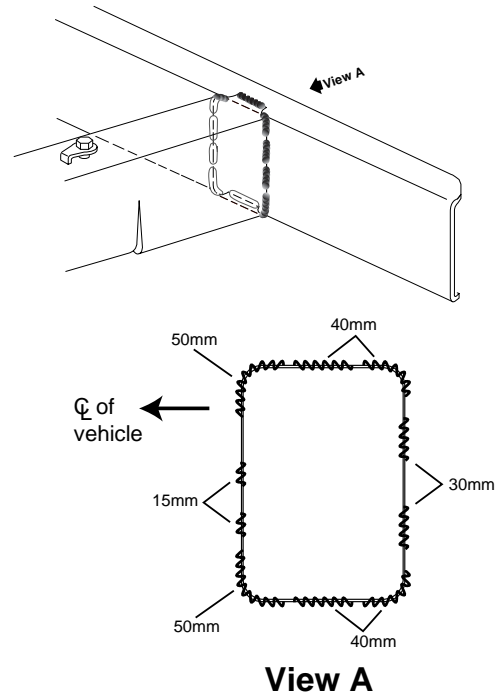

Fig. 3.74 — Weld Perimeter of Joint, as Indicated
- 2 Temporarily position the impact bar and scribe lines into the primer indicating where the welds will be made. Remove the primer from the areas to be MIG welded by sanding with 80-grit paper on a 'Dual-Action' sander (DA). Do Not use a grinder to remove the primer.
- 4 Position the bumper impact bar using three-dimensional measuring equipment and install per the original weld locations. Stitch weld around the 'fishmouth' joint. If not trace of the original welds are present, use Fig. 3.74 as a guide for welding the side rails to the impact bar. This weld pattern will create a solid weld joint with minimal heat distortion.